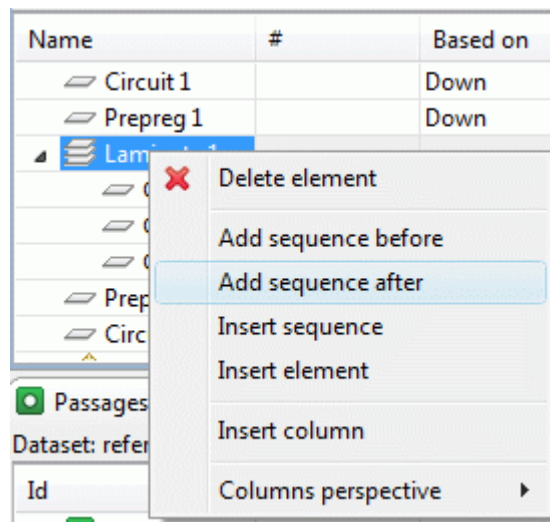

Figure 2. Context sensitive menu with selected *Add sequence after* menu item
- Right click and select the **Add sequence after** menu item in the appeared context sensitive menu (see Figure 2).